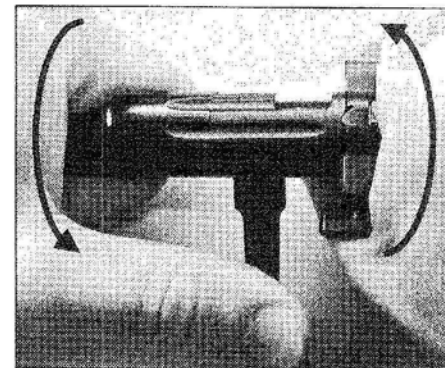

Fig. 03 Stripping The Bolt Assembly
- 5.12.2 To strip the bolt assembly, hold the bolt body in the left hand, positioning the thumb over the bolt handle and grasp the shroud in the right hand, see Fig. 03 "Stripping The Bolt Assembly".